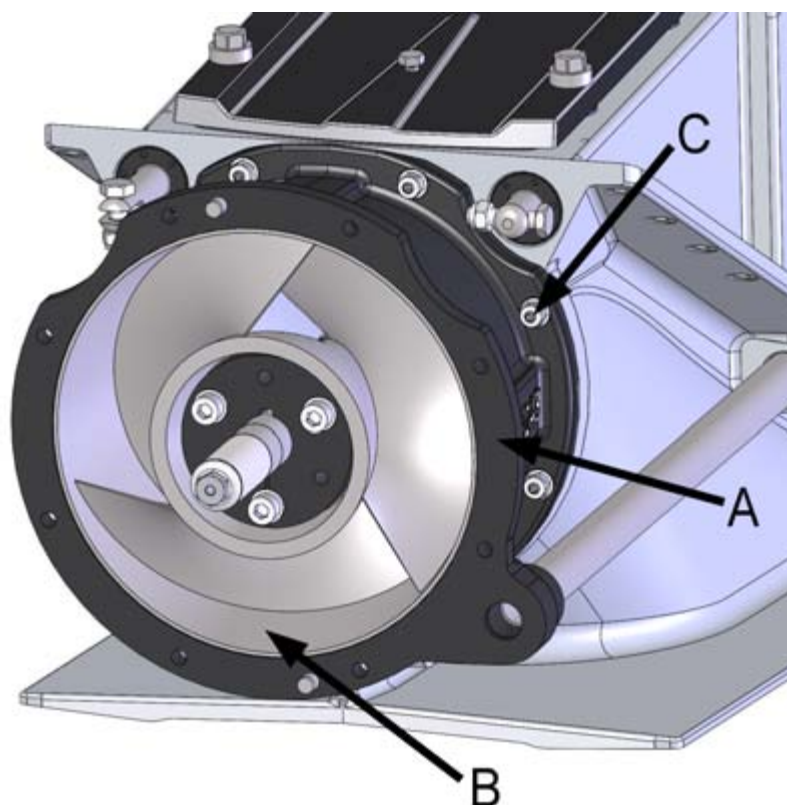

Figure 50. Impeller cone
The impeller spins inside a tunnel with an aluminium exterior surface (figure 50, point A) and an inner cone made of acid-proof steel (figure 50, point B). The inner cone is not an actual wearing part as the cone shape enables the impeller to be adjusted more deeply, in order to maintain a small clearance. However, if the inner cone is damaged, the entire impeller tunnel can be replaced.
3. Open the tunnel locking nuts (8 pcs, figure 50, point C).